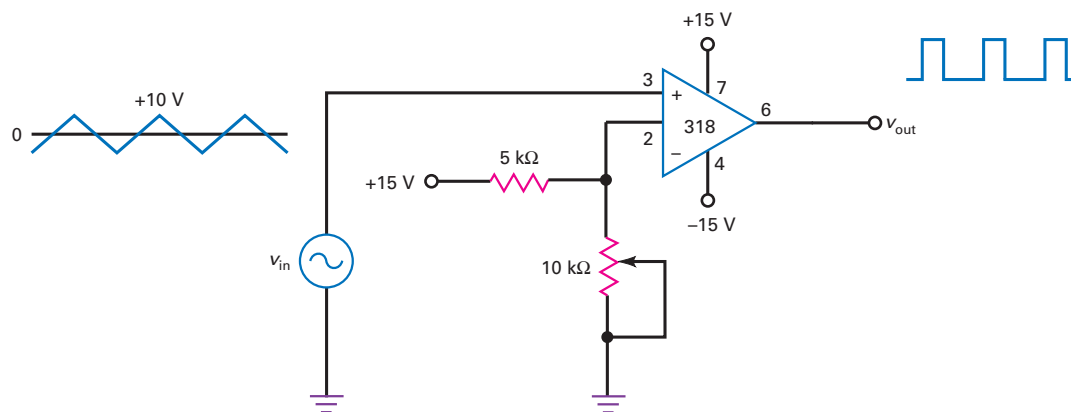

Figure 36-44
36.14 What is the duty cycle in Fig. 36-44 when the wiper is one-half of the way from the top?